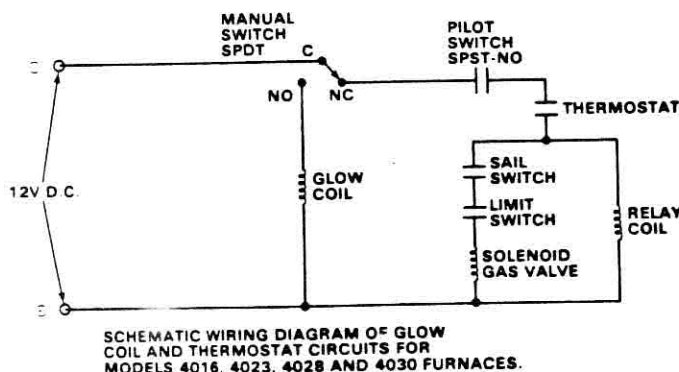

Figure 19
1. Immediately upon depressing the red button on the control valve, several functions are initiated — Refer to Figure 19.